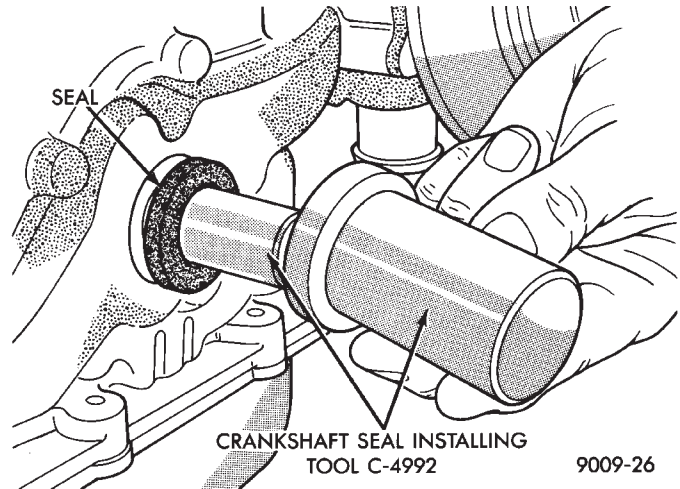

Fig. 45 Crankshaft Oil Seal—Installation
- (7) Install crankshaft oil seal (Fig. 45).